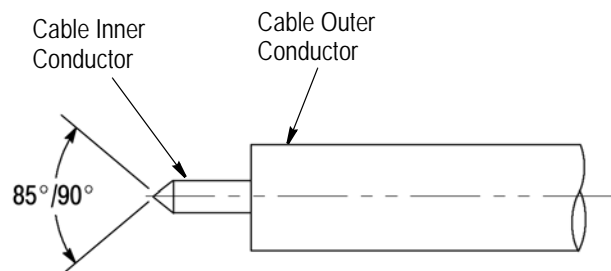

Figure 4
3.2. Shaping Inner Conductor of Cable (Figure 4)